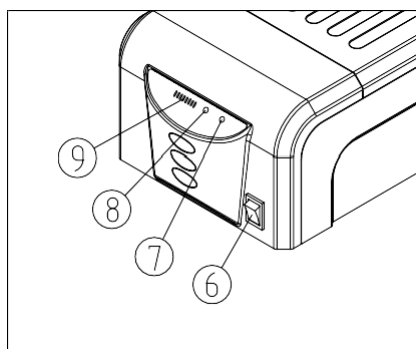

Fig. 32
(2) Turn on the battery box switch ⑥ to start powering the microscope. The indicator light ⑦ is “green” when the power is normally supplied, and the indicator light ⑧ is “orange-yellow” (the indicator light ⑧ is green after the electric is full), while the last grid of the light bar indicator ⑨ is “red”, and the remaining few grids are “green”. When the battery is low, the indicator light ⑦ is “orange-yellow” and the indicator light ⑧ is “orange-yellow”. At the same time, the light bar indicator ⑨ only has the last grid of red color. (See Fig. 32)